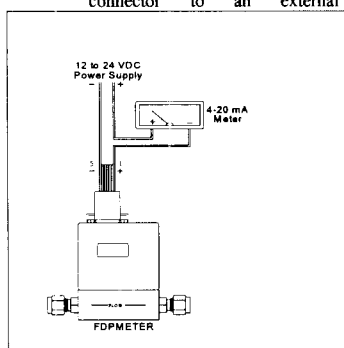

Figure 4: Voltage Meter Connection
- Flowmeters with the voltage output provide a 5 VDC output span. This voltage is 0 V for zero flow and 5 V for full-scale flow. The output voltage is linear over the entire range and is available through the DB9 connector. (See Figure 4)